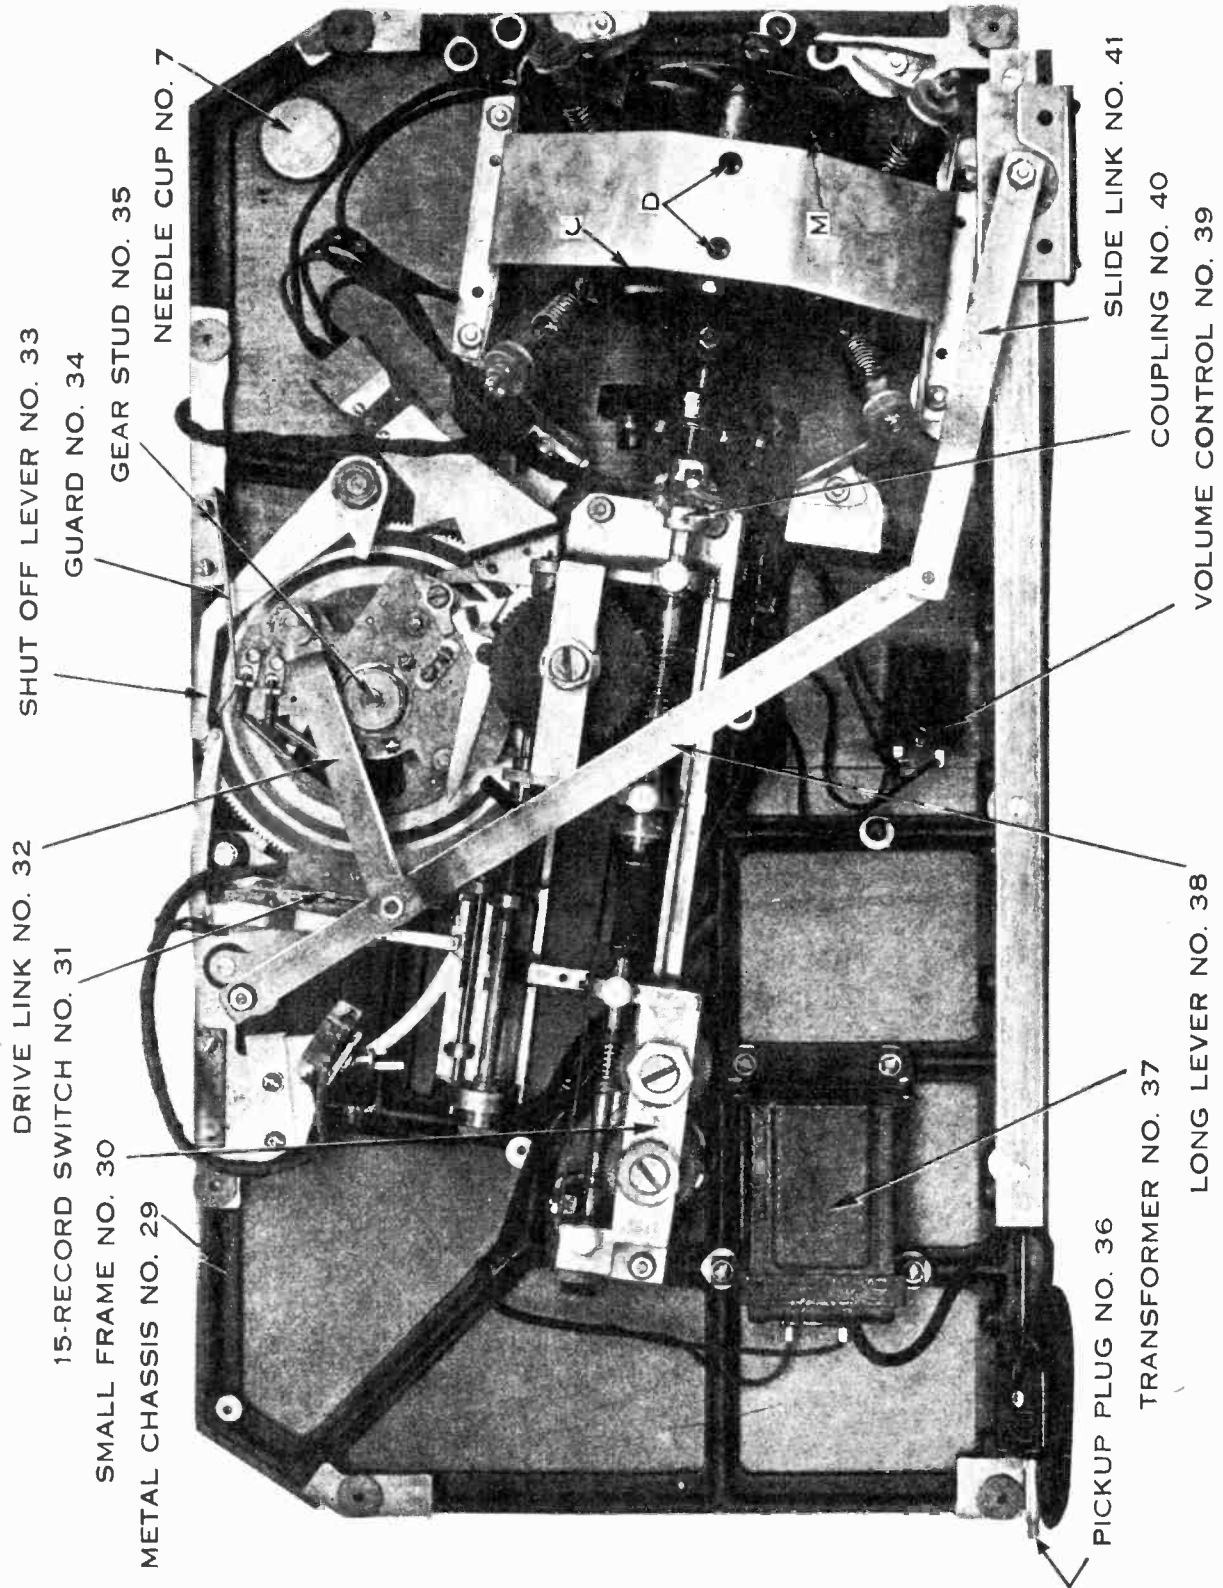

Fig. 3
Loosen screws and move back slightly until lever No. 81, Fig. 7, engages shut-off lever No. 33, Fig. 3, which throws pickup arm into off position thereby operating switch. Try each new adjustment by rotating drive shaft by hand before turning on power.
- (b) Guard No. 34, Fig. 3, not set closely against edge of cam No. 77, Fig. 7.